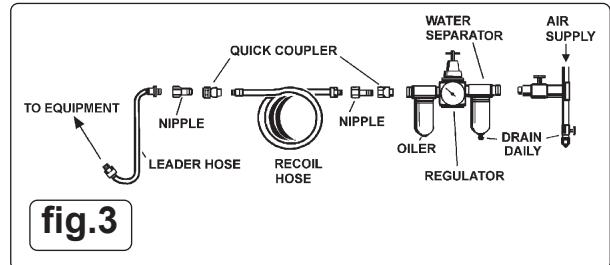

fig.3
4.4. Clean the compressor air inlet filter screen weekly. The recommended hook-up is shown in fig.3.